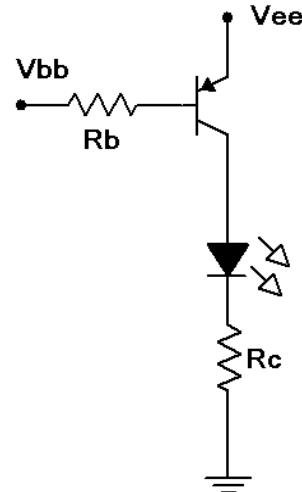

Figure 2
6. Consider the PNP saturating switch of Figure 2 using $V_{ee} = V_{bb} = 5$ volts, $R_b = 4.7 \text{ k}\Omega$ and $R_c = 220 \Omega$. Calculate the base and collector currents and record them in the first row of Table 3 (Theory). As the circuit is in saturation, the theoretical V_{CE} is close to zero and may be found on the transistor data sheet via the V_{CE}/I_C saturation graph. Record this value in the first row of Table 3 as well.
7. Build the saturating switch of Figure 2 using $V_{ee} = V_{bb} = 5$ volts, $R_b = 4.7 \text{ k}\Omega$ and $R_c = 220 \Omega$. Measure and record the base and collector currents, and record the collector-emitter voltage in the first row of Table 3 (Experimental). Also compute and record the deviations between theory and experimental results.